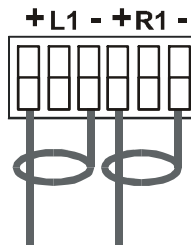

Figure 5: Connecting an Unbalanced Source to the Balanced Input
- An unbalanced source to the balanced input on the **VP-4x4** (see Figure 5)
Figure 5 illustrates how to connect an unbalanced source to the balanced input on the **VP-4x4** (for example, AUDIO INPUT 1):